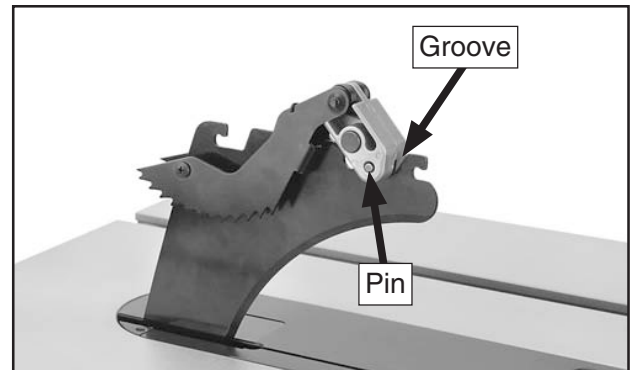

Figure 69. Re-installing pawls.
2. Slide the pin in the pawl block into the second groove from the front of the spreader, as shown in Figure 69.